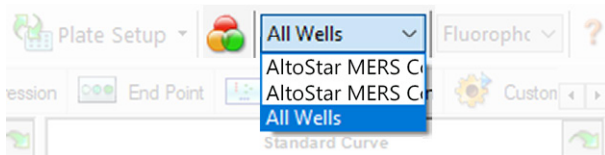

Figure 4: Well Group button and Well Group drop-down menu
In the Data Analysis window ensure to select the respective **Well Group** of the AltoStar® MERS-CoV RT-PCR Kit 1.5. Therefore, click on the **Well Group** drop-down menu right next to the **Well Group** button (see figure 4) of the toolbar. Do not use the “*All Wells*” **Well Group**. The selection in figure 4 is used as a general example view.
1. In the Data Analysis window ensure to select the **Well Group** of the AltoStar® MERS-CoV RT-PCR Kit 1.5. Therefore, click on the **Well Group** drop-down menu right next to the **Well Group** button (see figure 4) of the toolbar.
1. In the Data Analysis window ensure to select the respective **Well Group** of the AltoStar® MERS-CoV RT-PCR Kit 1.5. Therefore, click on the **Well Group** drop-down menu right next to the **Well Group** button (see figure 4) of the toolbar.